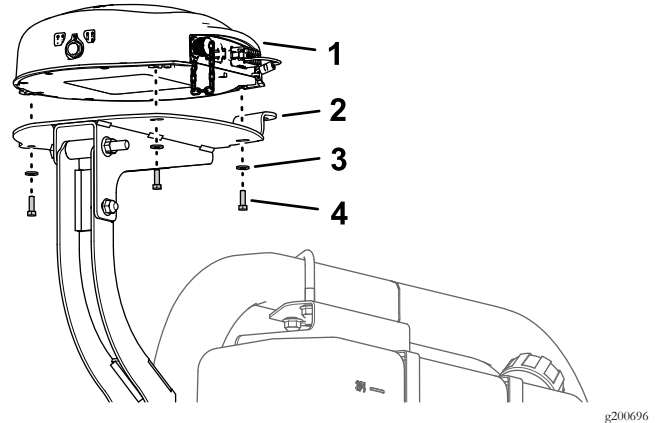

Figure 156
1. Align the 3 threaded in the base of the navigation receiver to the 3 holes in the receiver mount (Figure 156).
2. Assemble the receiver to the mount (Figure 156) with the 3 hex-head bolt (5 x 16 mm) and 3 washers (5 mm).